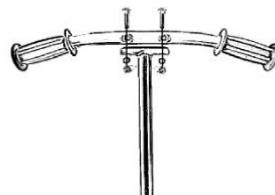

Fig. 2
Step 1: Align the holes on the handlebar with those on the T-bar. Insert bolts into top of the handlebar and through the T-bar base(Fig.2).